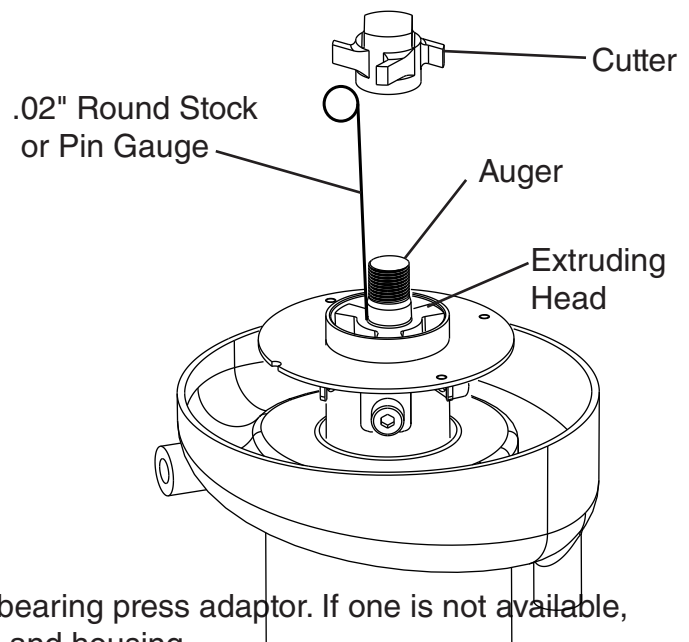

Fig. 7
- 4) Remove the cutter from the auger and lift off the cutter. See Fig. 7.